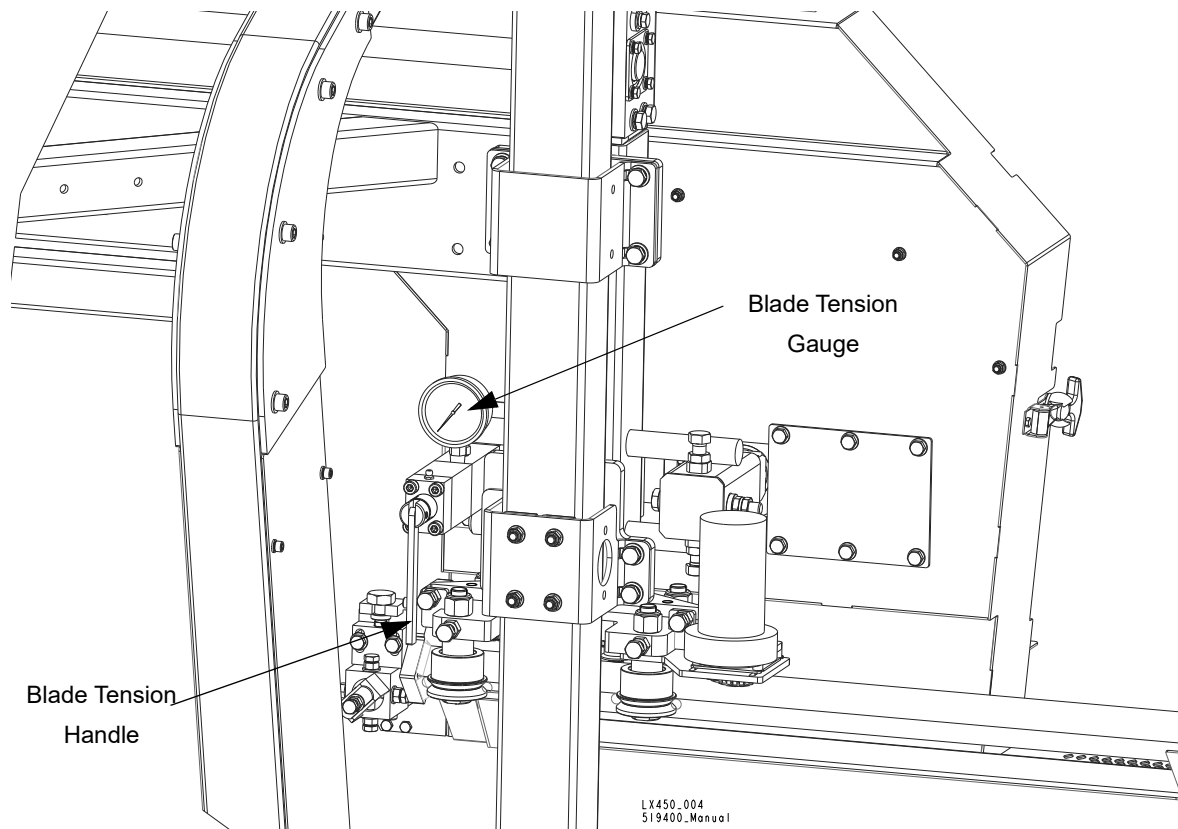

FIG. 2-9
**See Figure 2-9.** Position 1 1/4" wide blades on the wheels so the gullet is 3.0 mm ( $\pm 0,75$  mm) out from the front edge of the wheel.